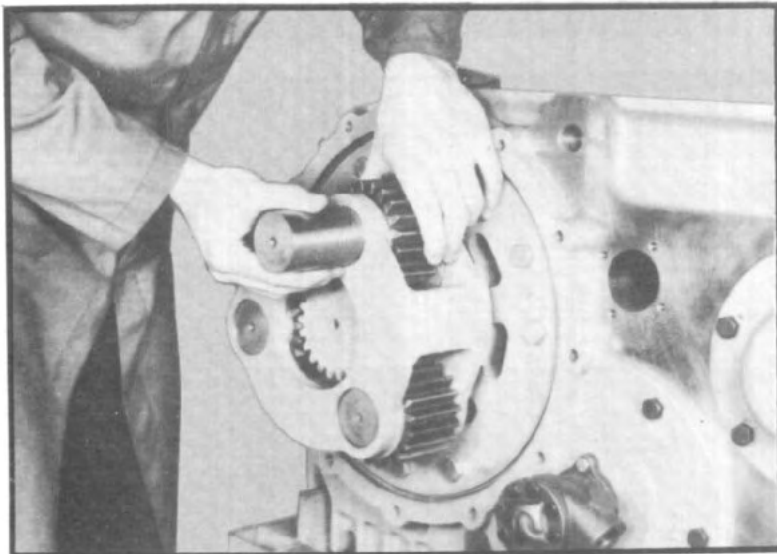

Fig. 64
3.11 Remove a planet pin from the planet carrier and withdraw planet gear and planet pin spacers from planet carrier. Push three needle bearing assemblies and two spacers from planet gear. Repeat procedure for remaining two planet gears. (See fig. 64.)